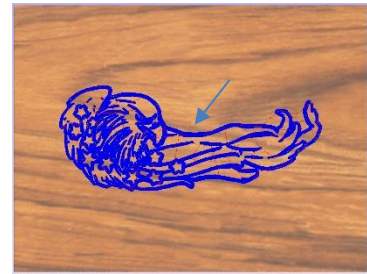

Fig. 25
30. Preview your RM Toolpath (Fig. 25)